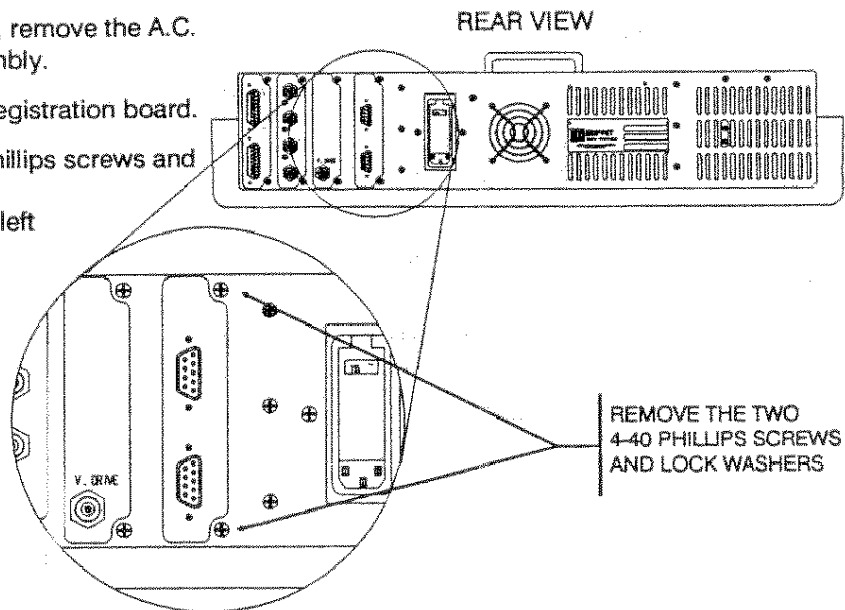

FIGURE 3-10. TTL MODULE REMOVAL
- STEP 3. Remove the two 4-40 phillips screws and lock washers securing the TTL module (fourth module from the left as view from the rear), to the rear panel. See Figure 3-10.